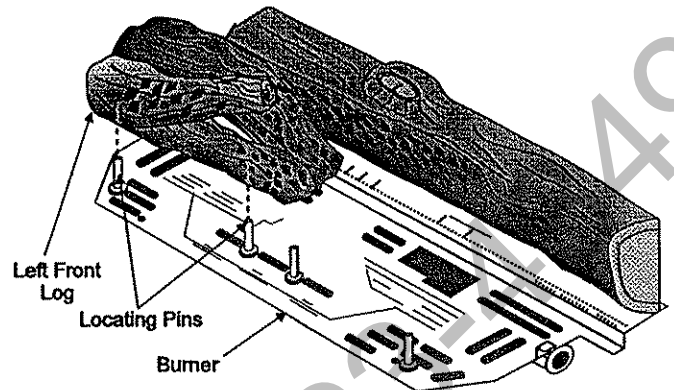

Figure 2
- 3) Place the left front log, carefully sliding it down onto the left pins of the front burner. See figure 2.